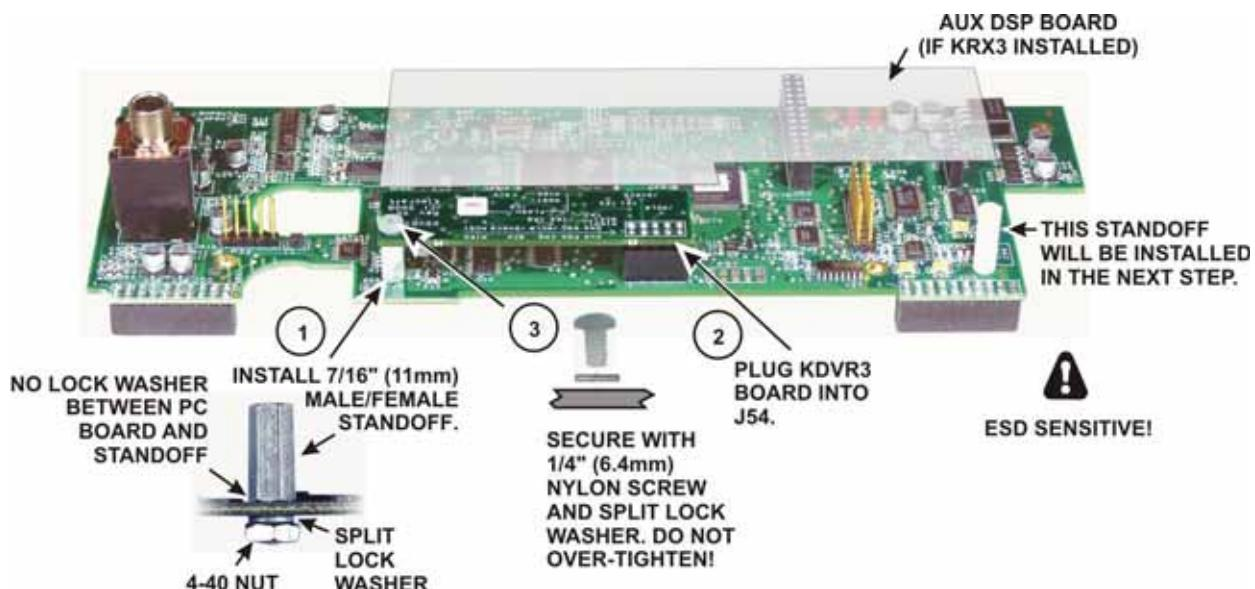

Figure 55. Installing the KDVR3 Board.
- If you have the KDVR3, install it on the main DSP board as shown in Figure 55. The required hardware is included in your KDVR3 kit. If you did not purchase the KDVR3, skip this step and continue with *Mounting the DSP Board Assembly on the Front Panel* on 39.
- Locate the main DSP board and install the nylon standoff near J51 as shown below. Be sure you place it in the correct hole near the edge of the board. The standoff is also shown in Figure 55.